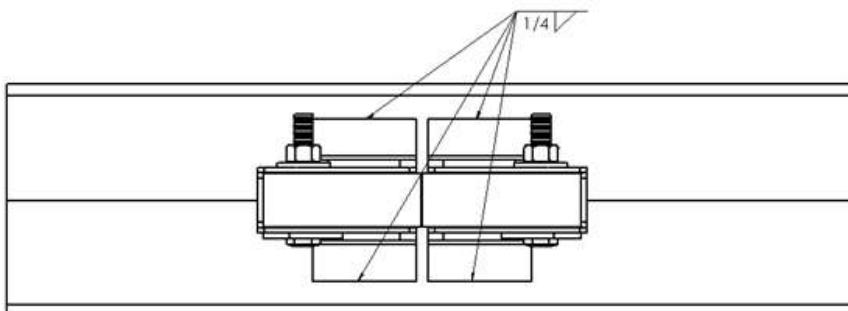

Fig. 4: Welded axle and bracket
2. Fillet weld a full bead on the front and back edges of each bracket piece, as per ANSI/AWS 2.4-79, AWS A5.4, AWS A5.9 and AWS A5.22 standards (Fig. 4). Do NOT weld the sides of the bracket, only the edges indicated below. Air-Weigh recommends that you use equipment similar to Miller Shopmaster 300 AC/DC; AMP/VOLT setting of 22; wire speed of 3.5; and a welding argon gas mixture of 75/25. MIG welding should use Lincoln L-56 or Lincoln Arc L-56. MIG welding will use the same settings as the Miller Shopmaster noted above.